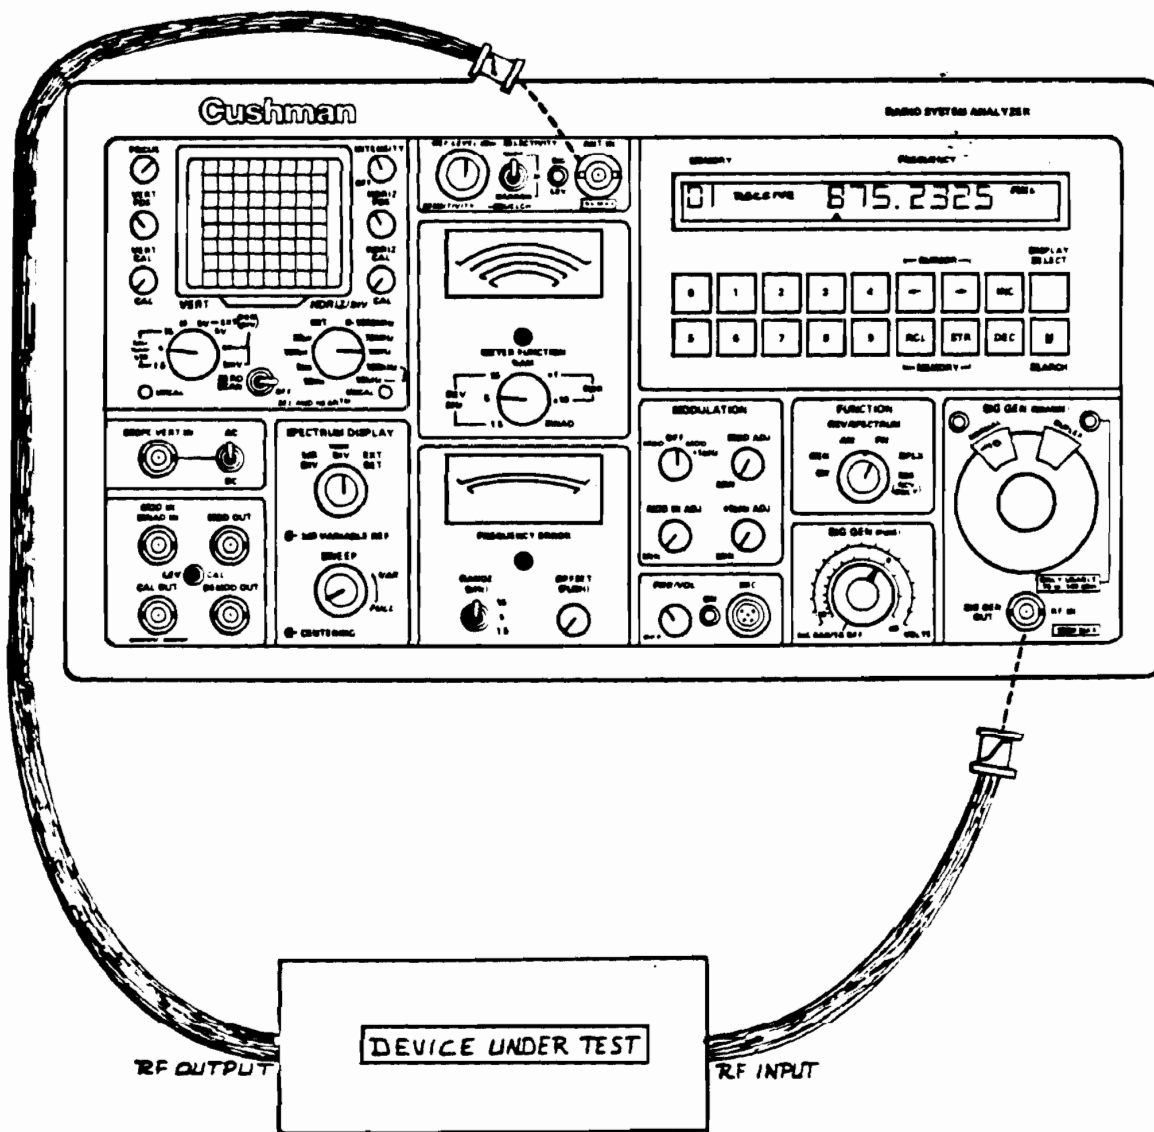

Figure 4-8. Tracking Generator Interconnect
- a. Except for the frequency and output level settings, connections and settings given here are the same for all applications of Tracking Generator sweep operation. See Figure 4-8.